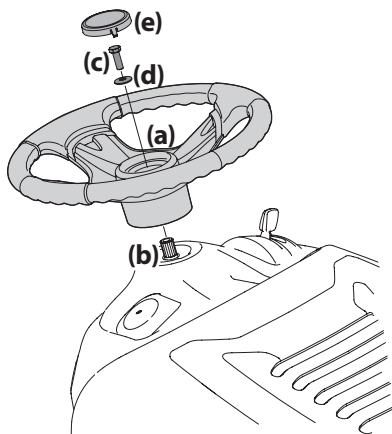

Figure 10
2. With the front wheels of the tractor pointing straight forward, align the steering wheel (a) and place it onto the steering shaft (b). See Figure 10.
3. Secure the steering wheel (a) with the hex bolt (c) and washer (d) from under the steering wheel cap (e) and torque to 18-22 ft-lbs (24-30 N-m). See Figure 10.
4. Place the steering wheel cap (e) over the center of the steering wheel (a) and push downward until it "clicks" into place. See Figure 10.